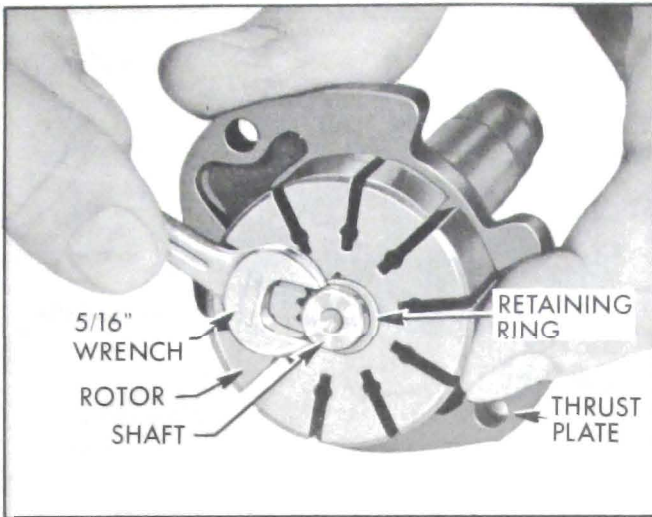

Figure 8-67—Removing Shaft Retaining Ring
13. Remove shaft retaining ring from end of shaft with a 5/16" open end wrench, being careful not to damage rotor. See Figure 8-67. Remove rotor and thrust plate from shaft.